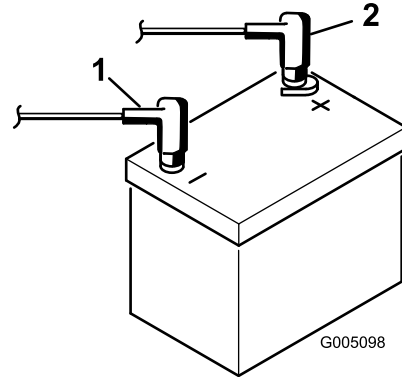

Figure 7
- First, install the positive cable (red) to the positive (+) terminal and then the negative cable (black) to the negative (-) terminal of the battery and secure them with the bolts and nuts (Figure 7). Slide the rubber boot over the positive terminal to prevent a possible short from occurring.